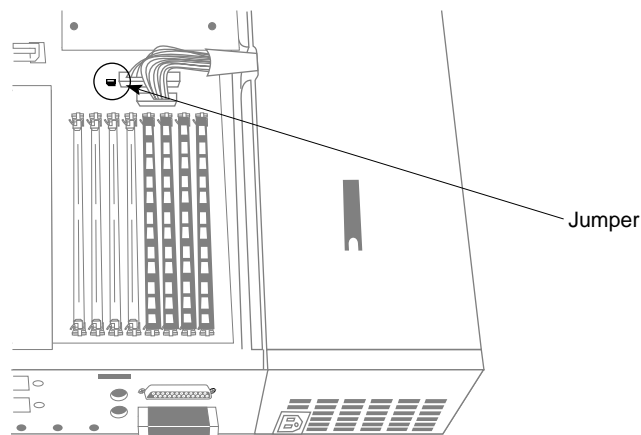

Figure 8-2 Locating the Password Jumper
If you do not know the system maintenance password, you can disable it by removing a jumper from the system board inside the server, as shown in Figure 8-2.
3. Locate the jumper beside the power supply cable connectors on the system board, as shown in Figure 8-2.